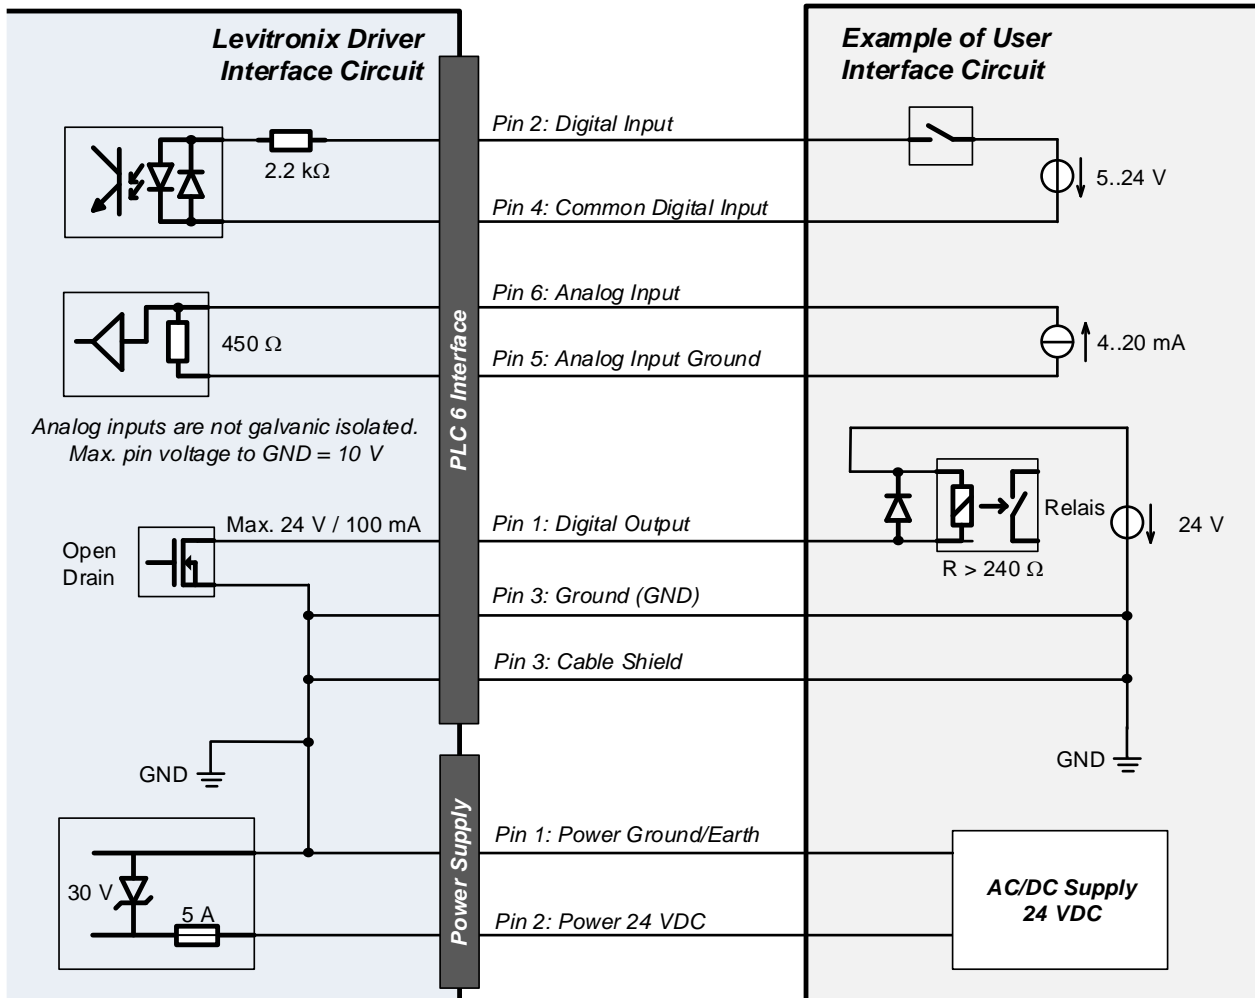

Figure 20: Electrical schematics of interfacing for Stand-Alone driver model
3. Follow *Figure 20* as reference for hardware configuration of the *PLC* inputs and outputs.